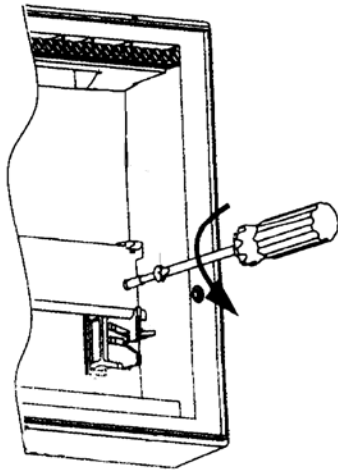

Fig 2.1
- The mounting rail assembly can be removed if required by undoing the fixings at either end of the rail (Fig 2.1)